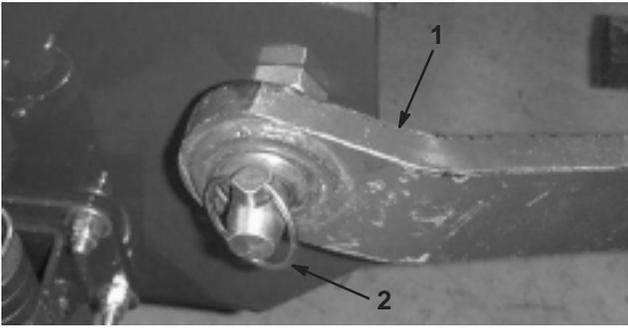

Figure 2
5. Insert the right and left lower link arms onto the hitch pins (Fig. 2).
6. Secure the lower link arms to the hitch pins with the lynch pins (Fig. 2).